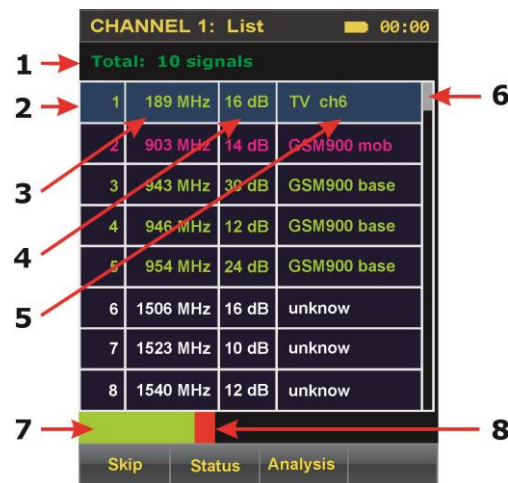

Figure 16
Upon completion of the search process, forming a table presented in Figure 16, where the numbers denote:
If you find air television signals, digital communication base stations and some other standard signals, the additional information (item 5 Figure 16) specifies the type of data signals, the color of the labels in a row - the green, which corresponds to the status of "known" (not dangerous) signal.
Upon detection of signals of digital mobile communications in the additional information (item 5 Figure 16) specifies the type of data signals, the colour of text boxes in a row - red, which corresponds to the status of "dangerous" (potentially dangerous) signal.
Upon detection of signals of a type that cannot be identified automatically, the additional information (item 5 Figure 16) indicates «unknown», while the colour labels in a row - white, which corresponds to the status of "unknown" signal.
Monitoring changes in the relative signal level of the indicator (item 7, 8, Fig. 16)